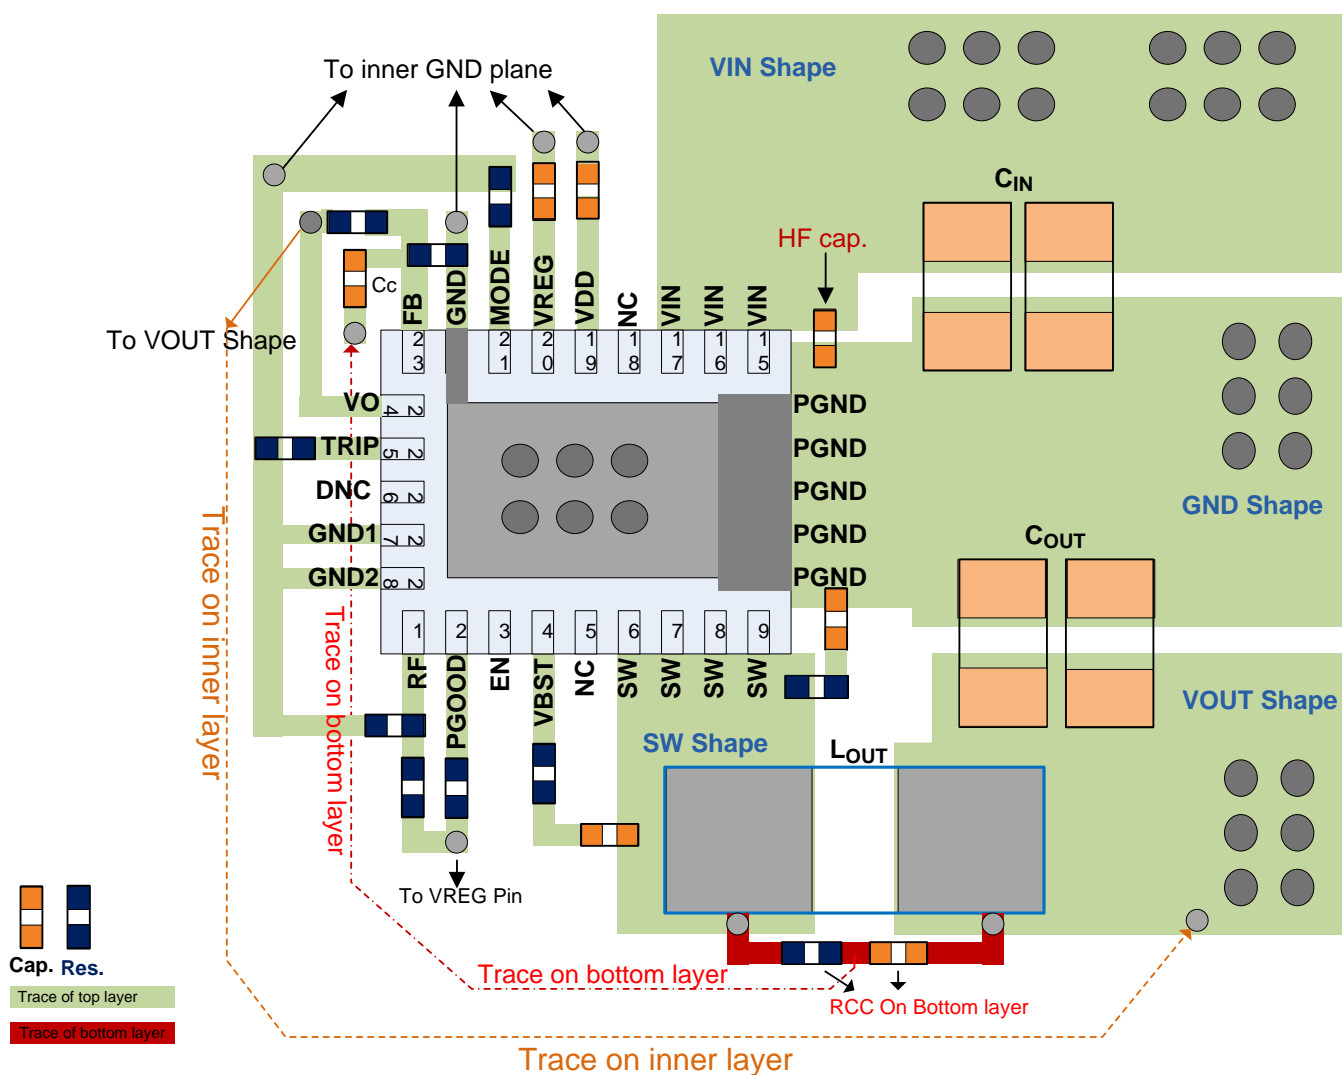

Figure 42. Layout Recommendation
- Place the frequency-setting resistor (RF), OCP-setting resistor (R_{TRIP}) and mode-setting resistor (R_{MODE}) close to the device. Use the common GND via to connect the resistors to the GND plane if applicable.
- See Figure 42 for the layout recommendation.